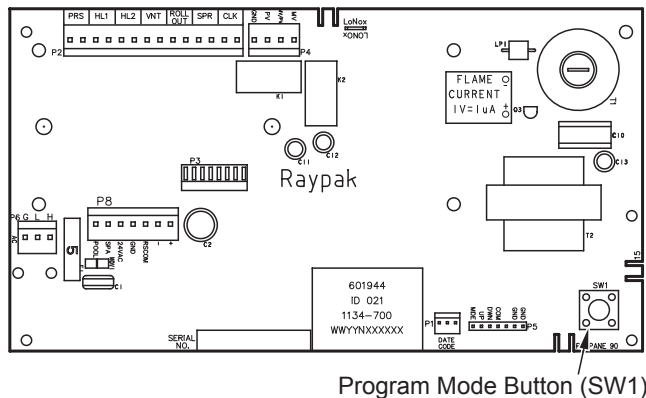

Figure 40. Thermostat Program Button (SW1)
1. Remove the four screws holding the control cover, and swing the panel down so the back side of the board is visible. Locate the Program Mode button (SW1) as shown in **Figure 40**. Press and hold the button for 5-7 seconds until SET FACTORY DEFAULTS appears on the display. Release the program button.